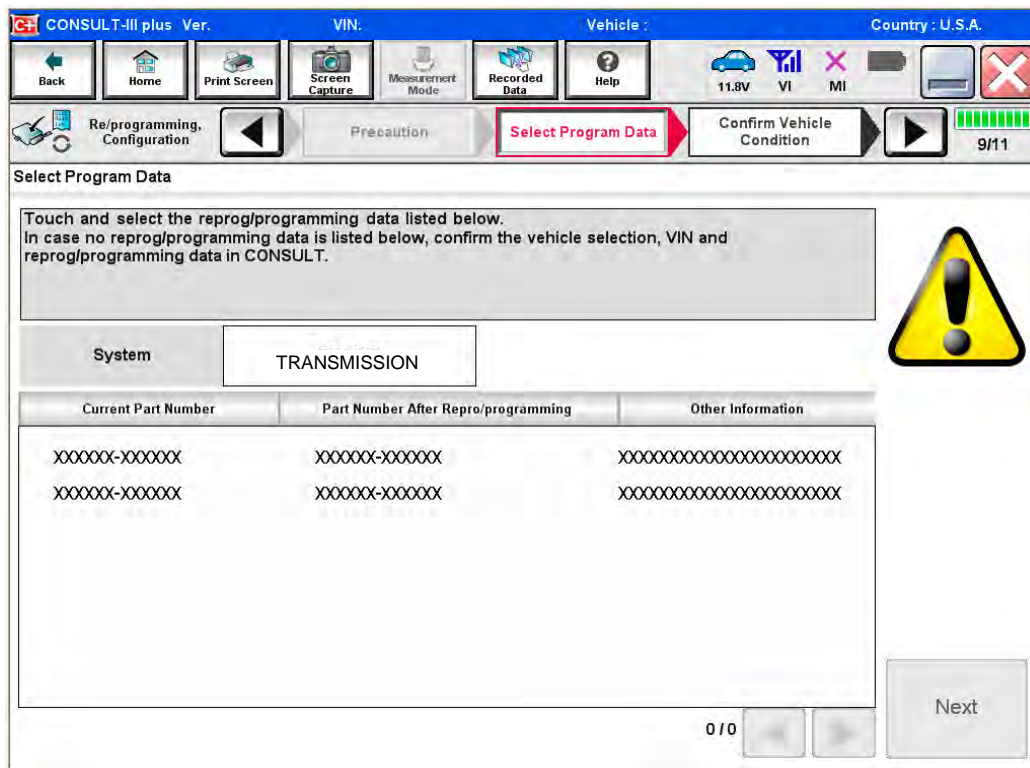

Figure 3K
- If more than one new P/N is available, the screen in Figure 3K displays.